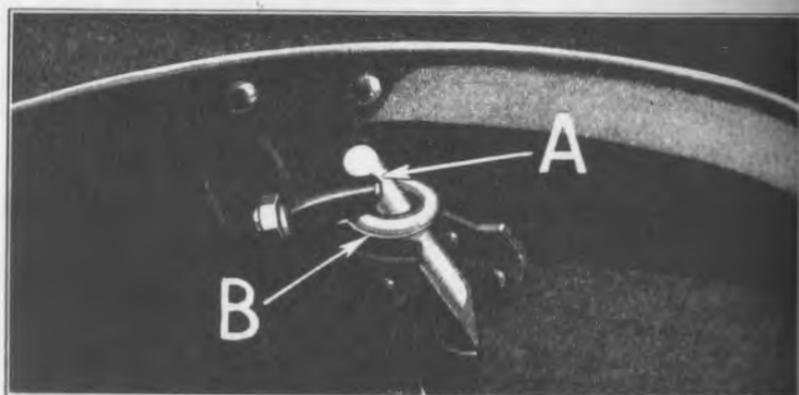

Fig. 118
- (a) Insert fender iron (See "A" Fig. 118) through fender eye bolt "B".